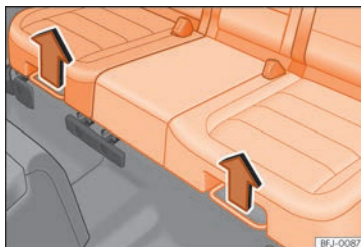

Fig. 101 Under the bench of the rear seat: setting levers.
- Pull the right or left lever, in the direction of the arrow » **Fig. 101**, and move the part corresponding to the seat to the front or the back.